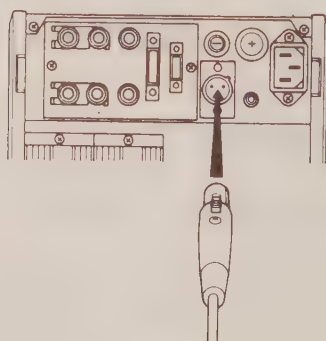

Fig. 3-2
- 2 Insert the connector of the accessory DC power cable into the DC SOURCE connector of the WR7500 (see Fig. 3-2).